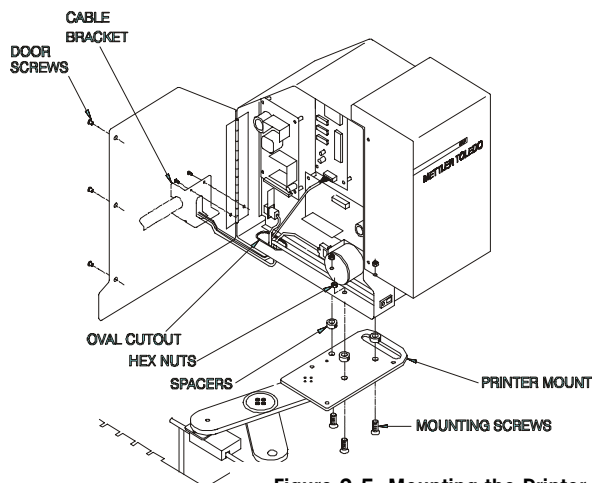

Figure 2-5: Mounting the Printer
- Install two of the mounting screws into the threaded holes for the front two printer feet and the third screw into a threaded hole in the middle of the printer base (See Figure 2-5).
- Route the cables and vacuum hose through the (supplied) cable bracket (Refer to Figure 2-5).
- Mount the Cable Bracket (Figure 2-5) on the back of the printer using the existing M4 x 8 Phillips screws. One is located at the bottom of the backside cover mounting bracket and the other holds the center support to the back panel.